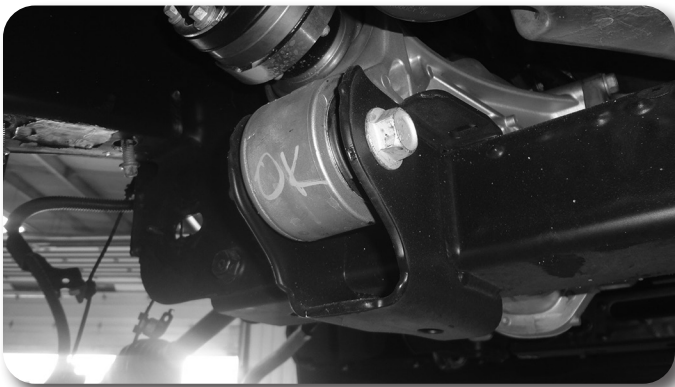

Figure 14
21. Remove the bolt attaching the differential to the rear cross member **Fig. 14**. Save hardware for later installation.